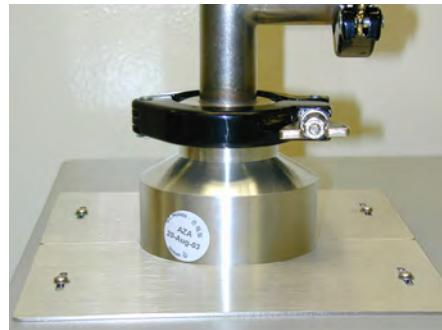

Figure 1-2 KF Input Connection
- KF – uses a quick clamp connector (Figure 1-2):